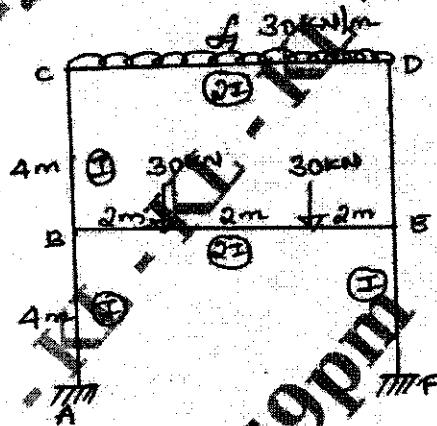

Fig.Q6
- 6 Analyse the frame shown in Fig.Q6 by Kani's method. Draw bending moment diagram.